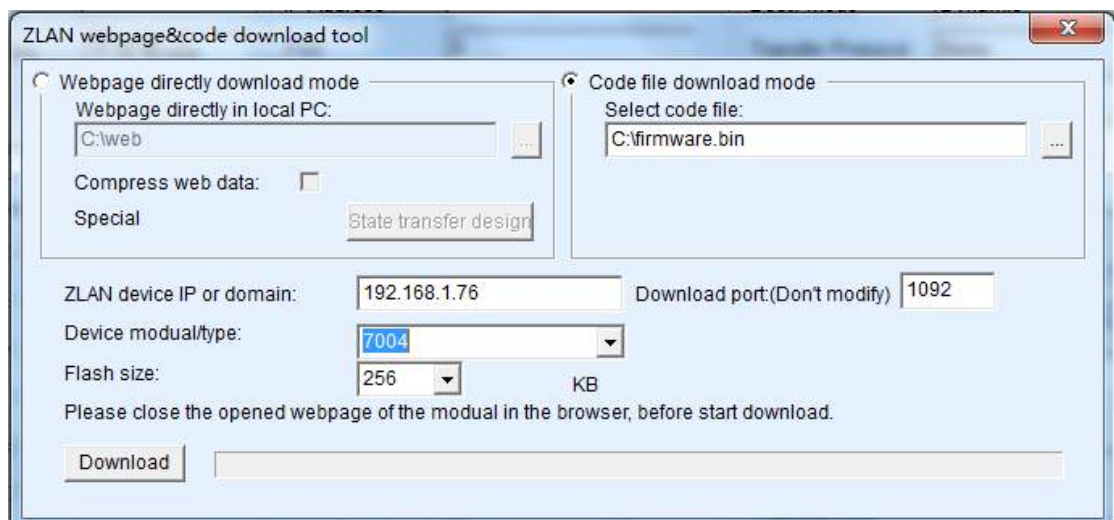

Figure 35 RWIFI Firmware Upgrade Method
- 4) Select "Code file download mode" as shown in figure 35. In the program file, choose the firmware file. The IP address part of the networking product has been automatically filled out and no further writing is required. The module type/model has been selected automatically. Then click download.
- 8) The configuration pages within the module also need to be updated after the firmware upgraded, otherwise the Web configuration will not be available again. The way to download the Web is: shown as FIG. 35, change the "Code file download mode" to "Webpage directory download mode". And choose the root directory of local Webpage as the file directory for the Webpage file needed to download (the directory can be obtained from us), click on the download, all files in the local Webpage directory will be downloaded to the file system within RWIFI.